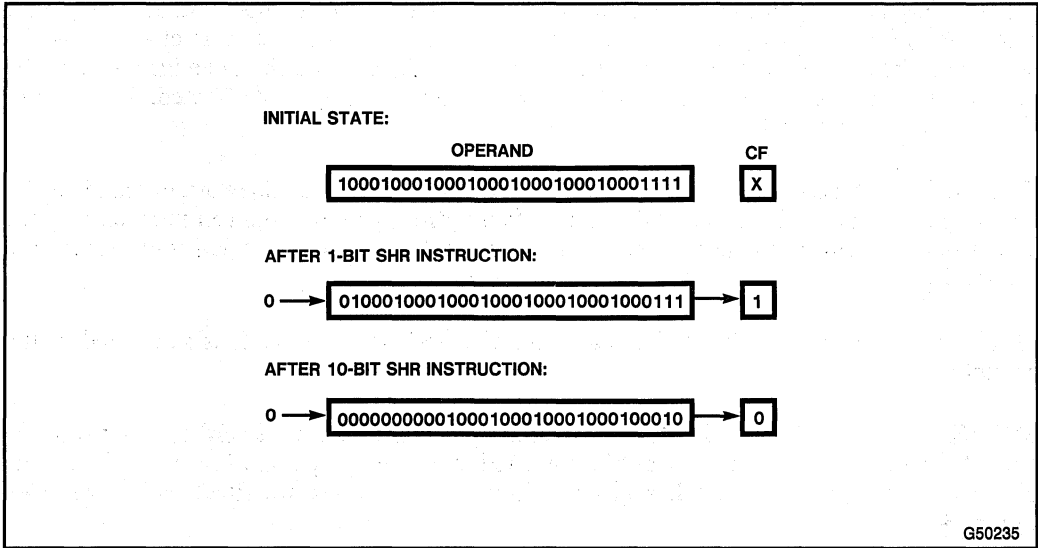

Figure 3-7. SHR Instruction
**SHR (Shift Logical Right)** shifts the destination byte, word, or doubleword operand right by one bit position or by the number of bits specified in the count operand (an immediate value or a value contained in the CL register). Empty bit positions are filled with zeros. See Figure 3-7.